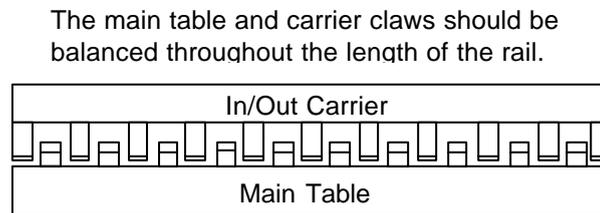

Figure 13
4. Move the X-axis cautiously so that the right and left clearance between the carrier claw and the guide rail becomes uniform on the fixed rail side. (Fig. 13)